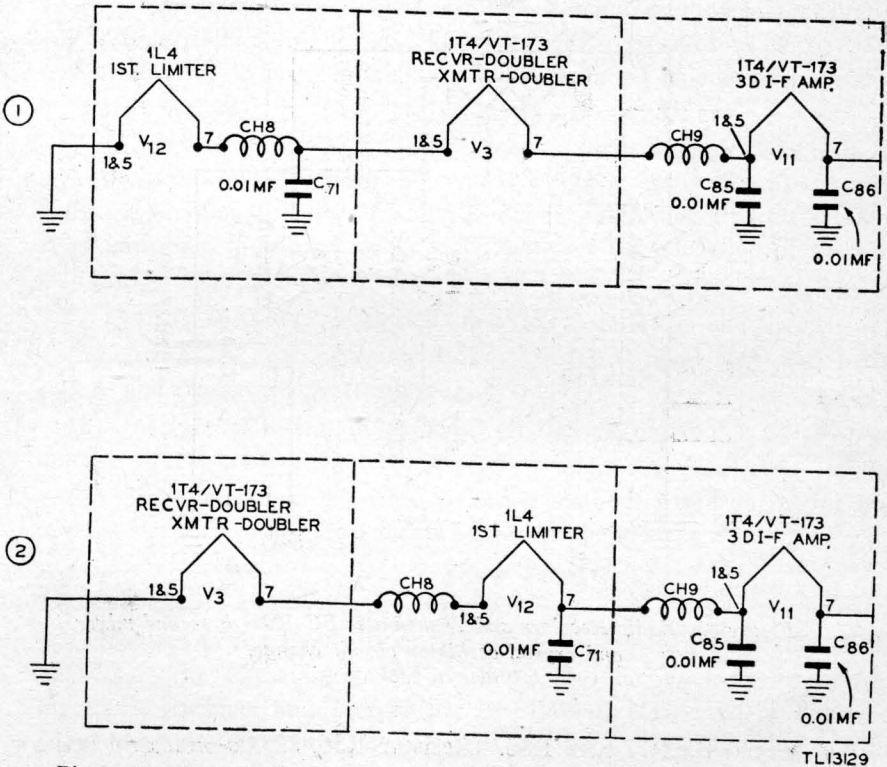

Figure 61. Radio Receiver and Transmitter BC-1000-A, wiring change in filament circuit of tubes, V3, V11, and V12.
fifth filament string has been changed to improve the operation of the set. Figure 61① shows the arrangement of the filaments before the change while figure 61② shows the filament string after the change. The string has been revised to put the filament of doubler tube V3 at the ground end of the string. This filament revision is effective on all sets on Order No. 15025-Phila-43 from Serial Nos. 4775 through 8824 and from 9111 through 14707. It is also effective on all sets on the entire Order No. 32870-Phila-43, Order No. 23916-Phila-44-01, and Order No. 10185-Phila-44-01.